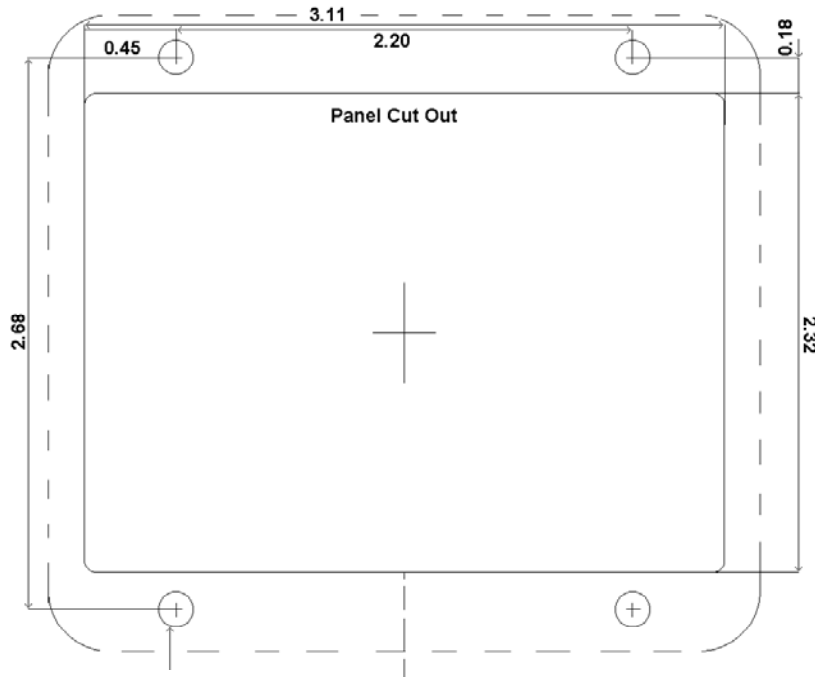

Figure 4: Flush Mount Cutout (dimensions in Inches, not actual size)
13. Cut a hole in the remote operator-mounting panel as shown in Figure 4 for flush mounting.